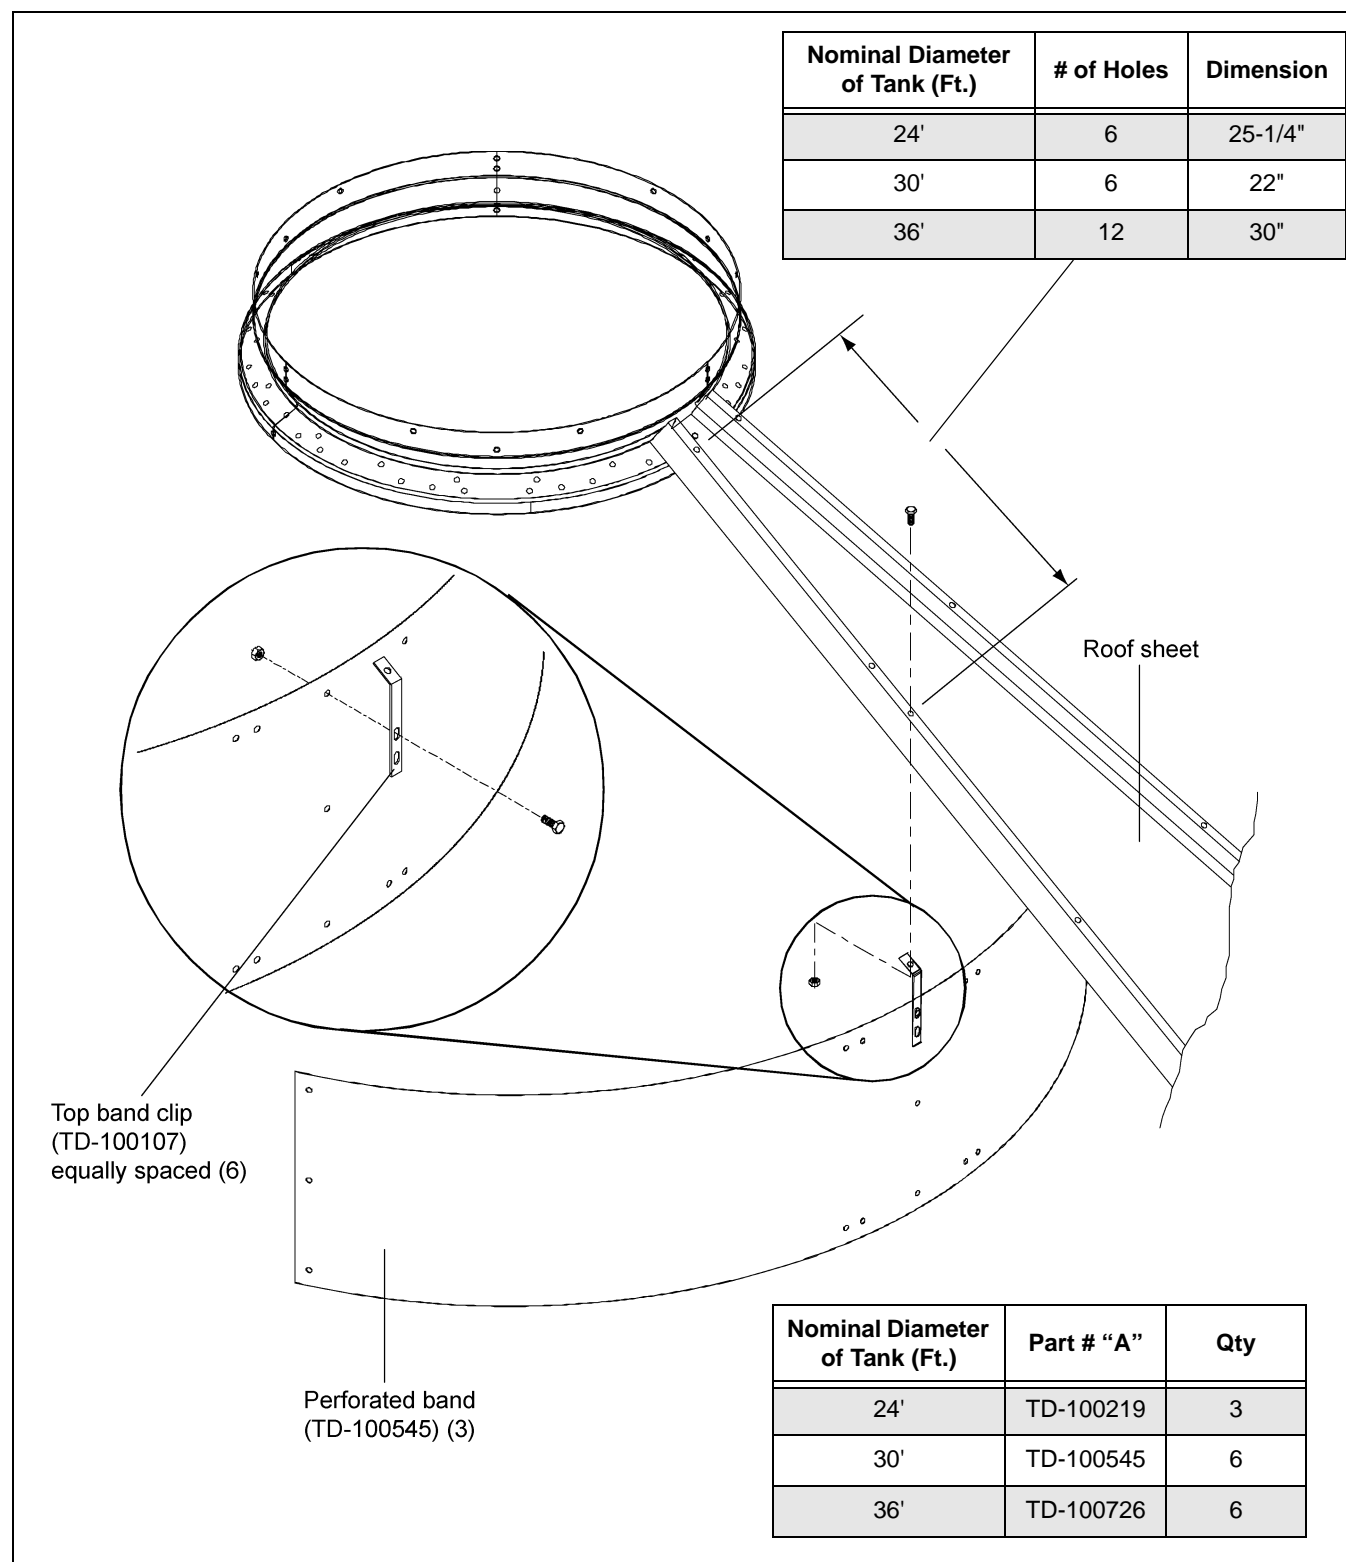

Figure 9V
Drill six (6) 3/8" diameter holes equally spaced as shown in Chart for top band clips. Attach clips using 5/16" x 3/4" bin bolts. Add perforated band sections. Note that these do not attach to the leveling bands but hang down on the inside of the top inner leveling band. (See Figure 9V.)